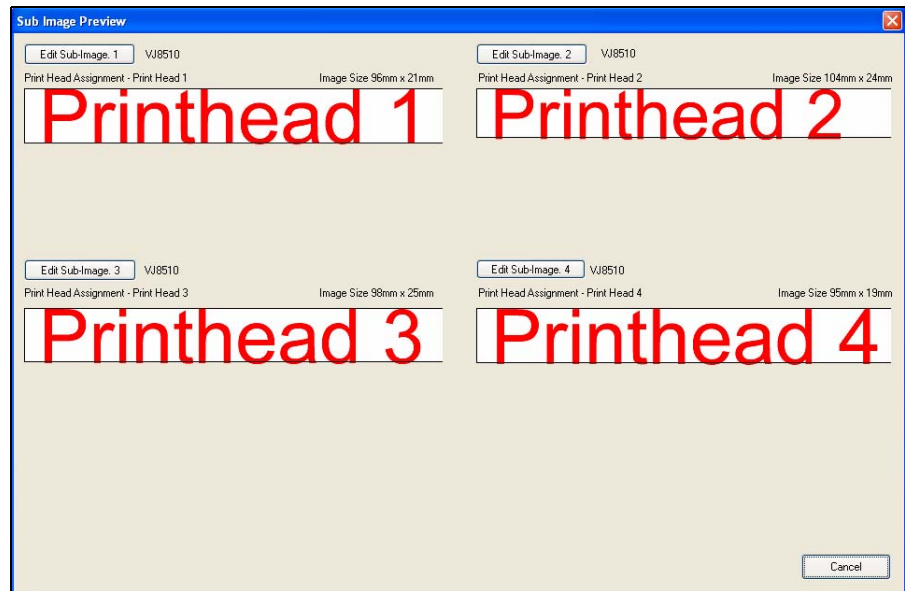

Figure 5-25: Sub Image
- All individually: Each head prints different data within a job. If this setting is selected, whenever you create a new job you will be given exactly the number of print fields that were set in *Number of printheads*. Each field is an individual sub-image, and the image can be edited through the sub-image screen (see Figure 5-25).